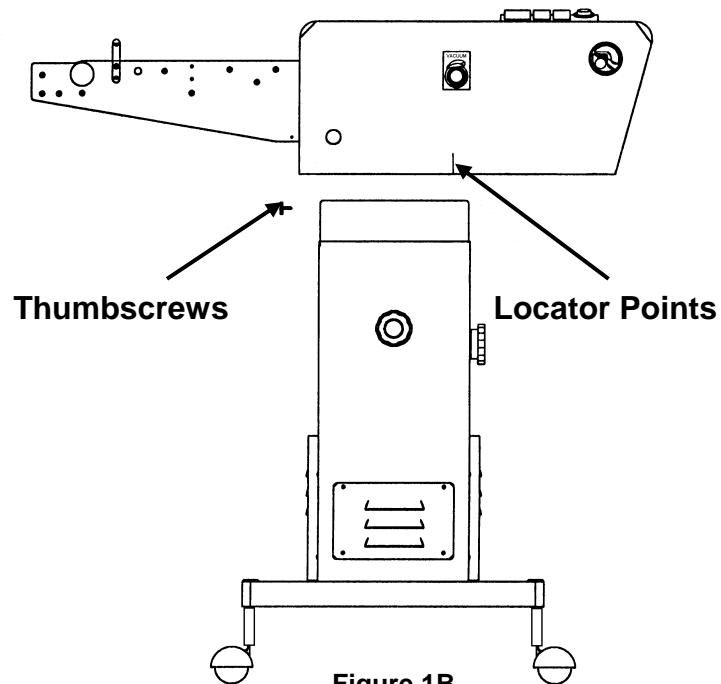

Figure 1B
4. Place Feeder on top of Stand by locating two mating points on bottom of Feeder. **[Fig. 1B]**
7. Install two (2) 1/4-20 x 1/2 thumbscrews provided in **Accessory Kit**.